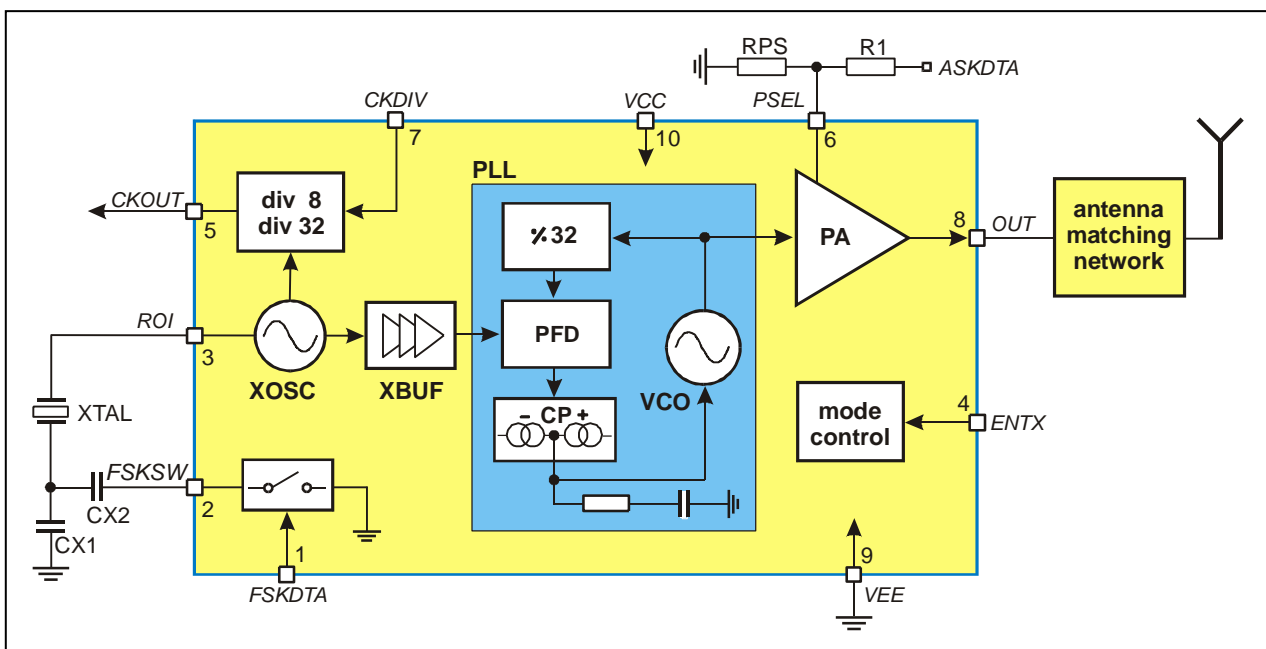

Fig. 1: Block diagram with external components
As depicted in Fig.1, the TH72036 transmitter consists of a fully integrated voltage-controlled oscillator (VCO), a divide-by-32 divider (div32), a phase-frequency detector (PFD) and a charge pump (CP). An internal loop filter determines the dynamic behavior of the PLL and suppresses reference spurious signals. A Colpitts crystal oscillator (XOSC) is used as the reference oscillator of a phase-locked loop (PLL) synthesizer. The VCO's output signal feeds the power amplifier (PA). The RF signal power P_{out} can be adjusted in four steps from $P_{out} = -11$ dBm to +9.5 dBm, either by changing the value of resistor RPS or by varying the voltage V_{PS} at pin PSEL. The open-collector output (OUT) can be used either to directly drive a loop antenna or to be matched to a 50ohm load. Bandgap biasing ensures stable operation of the IC at a power supply range of 1.95 V to 5.5 V.